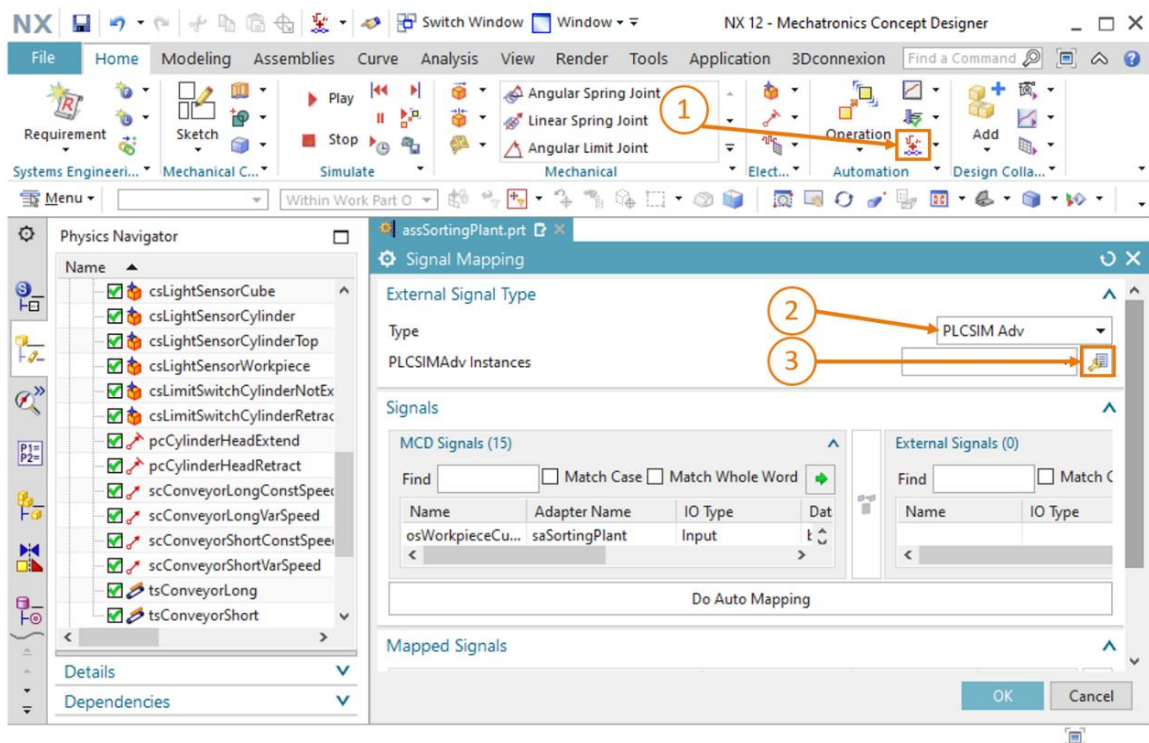

Figure 17: Selection of signal mapping via PLCSIM Advanced
- Select the **"Signal Mapping"** command in the **"Automation"** menu group (see Figure 17, step 1). The **"Signal Mapping"** dialog window opens. There, you must first select the external signal source. To do this, go to the **"External Signal Type"** group and select **"PLCSIM Adv"** as the type, because your aim is to connect to PLCSIM Advanced (see Figure 17, step 2). At this point, your dynamic model does not know the instance in PLCSIM Advanced to which a connection is to be established. For this reason, click the **"Settings"** button for the **"PLCSIM Adv Instances"** item (see Figure 17, step 3).